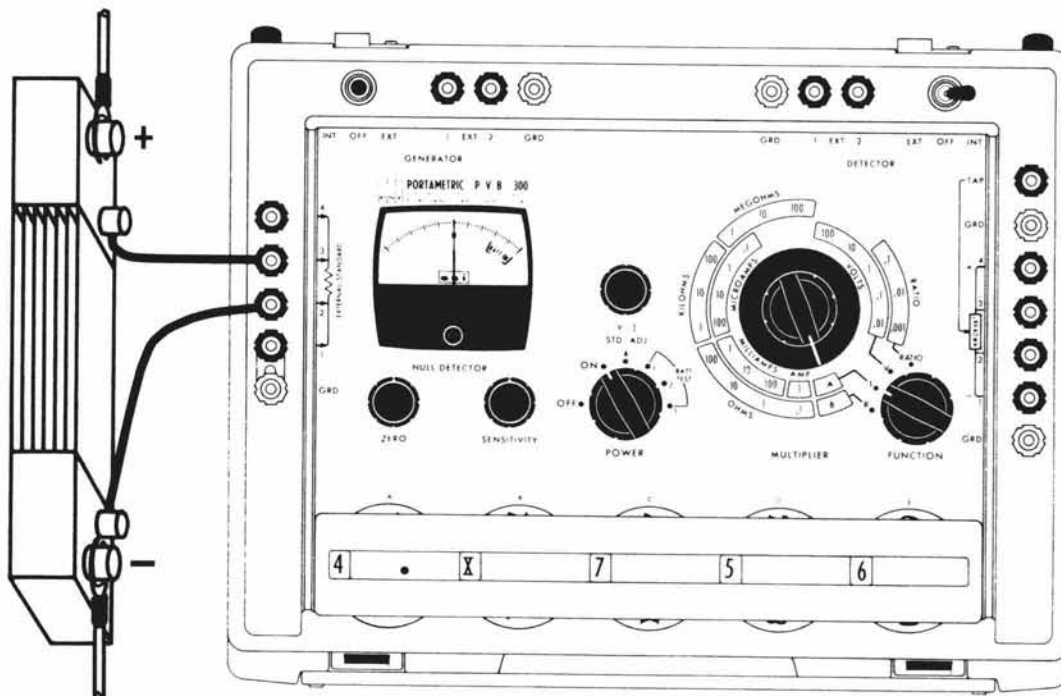

Figure 2.13 - External Current Shunt
- 2) Connect shunt to EXTERNAL STANDARD terminals 2 and 3, and connect current to be measured to the external shunt or to the same terminals as the shunt. See Figure 2.13.